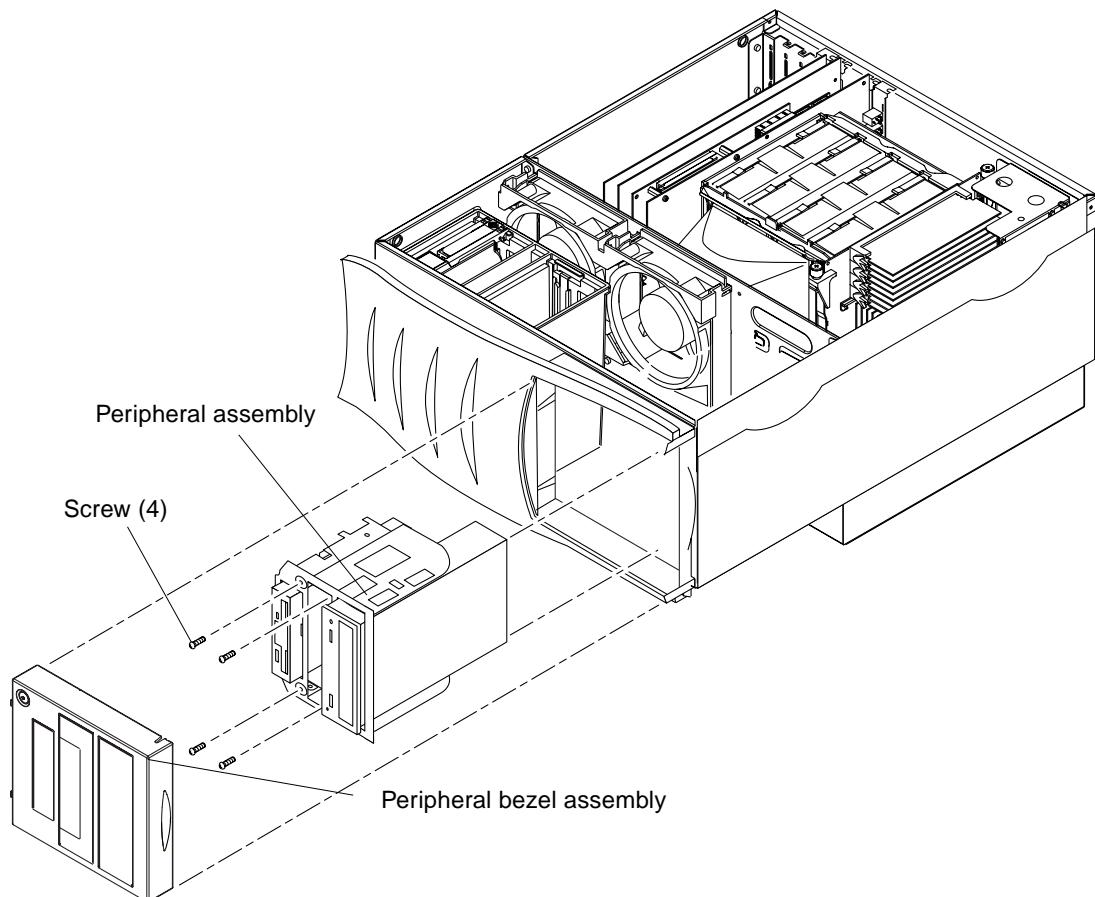
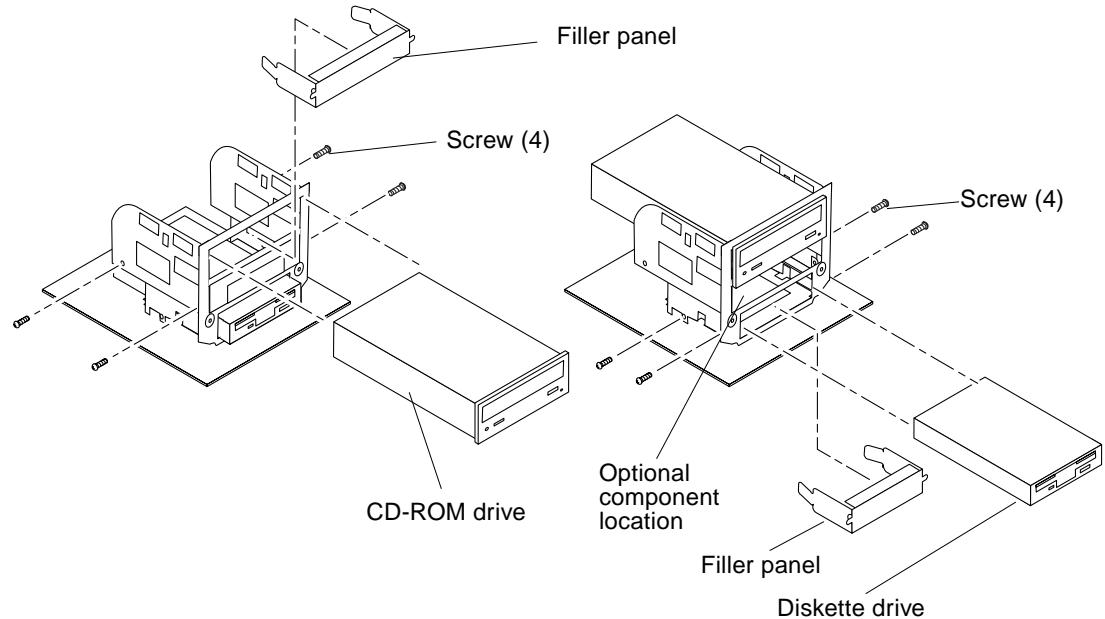

FIGURE 3-1 Removing and Replacing the Peripheral Assembly
FIGURE 3-2 Installing Any Optional Tape Drive Component
- 4. Remove the peripheral assembly as follows (FIGURE 3-1 and FIGURE 3-2):**
1. Remove the filler panel, if necessary (FIGURE 3-2).
1. Replace the peripheral assembly as follows (FIGURE 3-2):